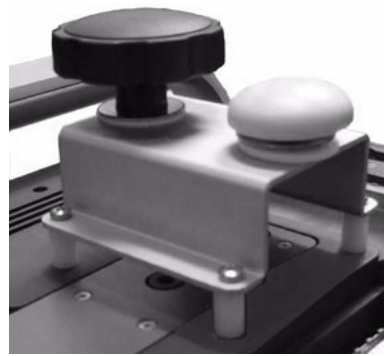

Figure 2 Spacing plate and spacers connected to the S Series ultrasound system
- 3 Using a Phillips screwdriver and four 25mm screws, connect the spacing plate and four 5/8" nylon spacers to the back of the ultrasound system. (See Figure 2.)